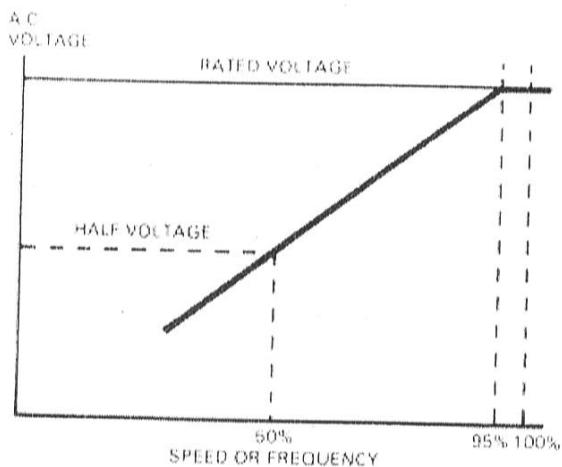

Figure 7
• Under Frequency	Fault set at 5% below rated speed... 50 or 60-100 RPM (See Figure 7)
The relationship between the voltage and speed are shown in Figure 7